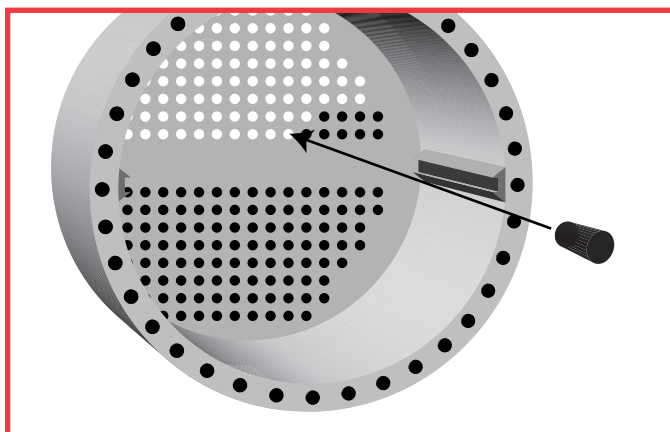

Figure 31. Install stoppers flush with the ends of the tubes.
1. **Install stoppers.** Remove the end plates and baffles, and insert rubber stoppers into the end of the tubes. The stoppers should protrude no more than 1/8" (3 mm). This clearance will allow for a 1/8" coating of epoxy, as illustrated. (See figure 31)